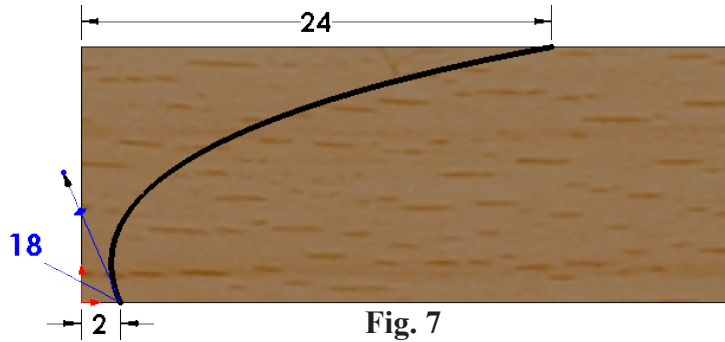

Fig. 7
Step 8. Dimension Spline Point 1 **Tangent Weighting 18**, **Fig. 7**. To dimension Tangent Weighting, click the **Circular Spline handle**, then move the cursor out away from spline and click. Key-in 18 and press ENTER.